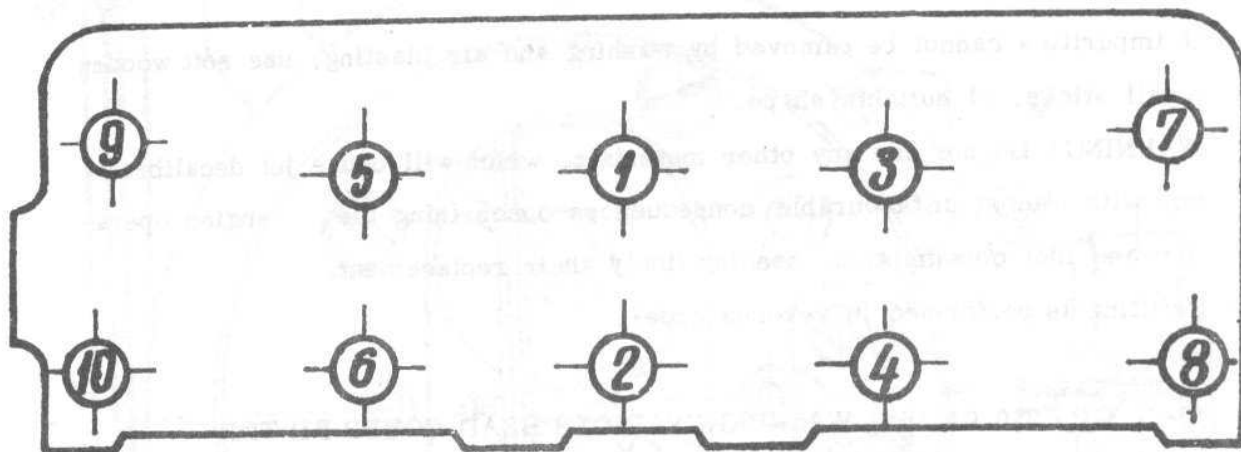

Fig. 2.24. CYLINDER HEAD BOLTS FASTENING ORDER.
- Firstly check tightening of the 10 bolts, by means of a torque wrench in the sequence recommended in fig.2.24, at a torque of 7.4 daN.m. (see fig.2.24).